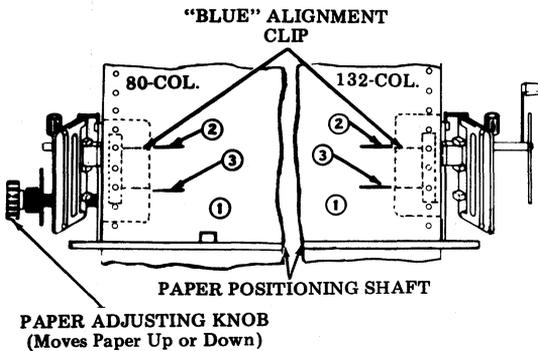

Fig. 63—Paper Positioning for First Printing Line (80- and 132-Column)
(b) On 80- or 132-column tractor feed printer, pull out paper advance knob (blue) and turn to position form for first line of printing as follows (Fig. 63):
- (1) Position the paper so first line to be printed is just above the paper positioning shaft (Fig. 63).
- (2) Position the top of the alignment clip to any reference mark on the paper (or make a pencil mark on the paper in line with the top of the alignment clip).
- (3) Using the blue paper adjusting knob move the paper down so that the reference mark (or pencil mark) on the paper is in line with the bottom of the alignment clip (Fig. 63).
- (4) Return paper guide to operating condition.